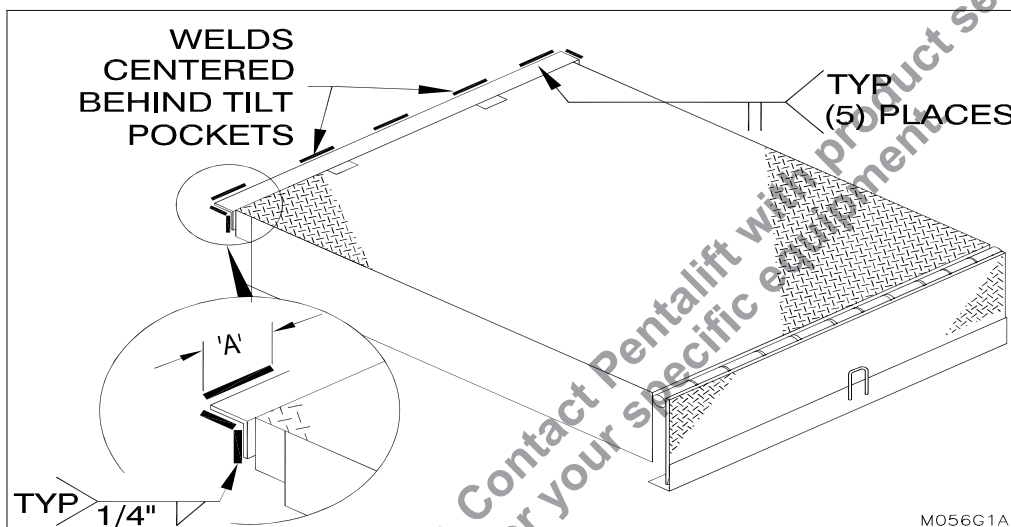

Figure 13: Back Angle Weld of Dock Leveler
The maintenance stand of this dock leveler is designed for use only when the dock leveler is securely welded into the dock leveler pit. Use of the stand is not recommended if the dock leveler is not securely welded into the pit (see “Figure 13: Back Angle Weld of Dock Leveler” on page 15). To support the dock leveler at times when installation welding is not in place, utilize the auxiliary maintenance stand (see “Figure 59.1: Supporting the Dock Leveler with the Auxiliary Maintenance Stand” on page 53) that supports the dock leveler more centered on the dock leveler width.
5. ___ Weld back angle of dock leveler to rear curb angle as shown in "Figure 13: Back Angle Weld of Dock Leveler" on page 15, using the welding reference and notes on page 27 as a guide.
16. ___ Complete welding the back angle of the dock leveler to the rear pit curb angle as shown in "Figure 13: Back Angle Weld of Dock Leveler" on page 15.